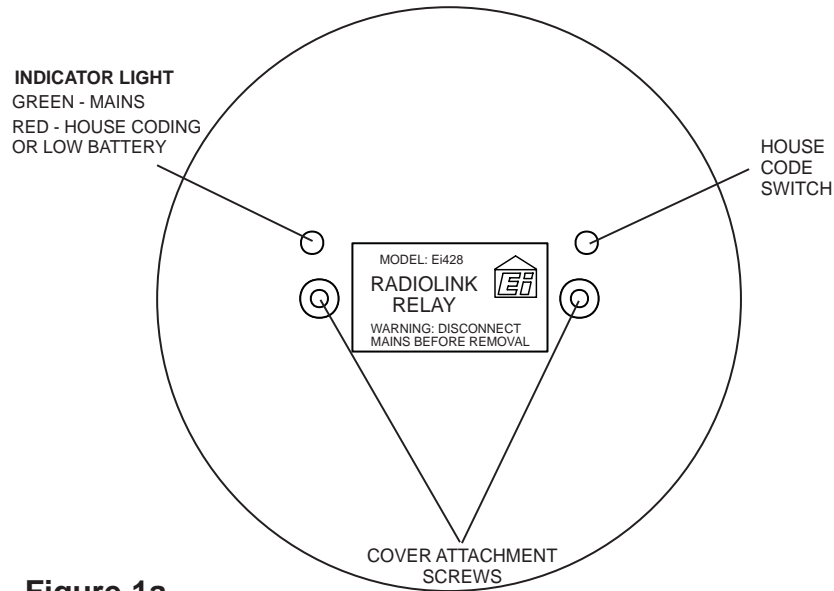

Figure 1a
10. Press and hold the House Code switch through the hole in the cover using a small screwdriver, see figure 1a, until the green light changes to red. Release the switch and the light will flash red quickly, a few times. The red light will then flash every 5 seconds (this is a dual colour light so the green light remains on when the red light is off and vice versa). Similarly, put all the other RadioLINK units in the property into House Code Mode (see relevant user instructions) within 15 minutes (before the timeout period expires).